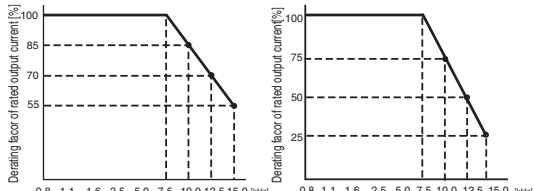

Fig. 1 Derating Caused by Carrier Frequency (1P54, 2P24, 3P74) Fig. 2 Derating Caused by Carrier Frequency (0P74)
1. The rated output current of inverter varies with the set carrier frequency. Derate the output current as shown in Table 1, Fig. 1 and Fig. 2.